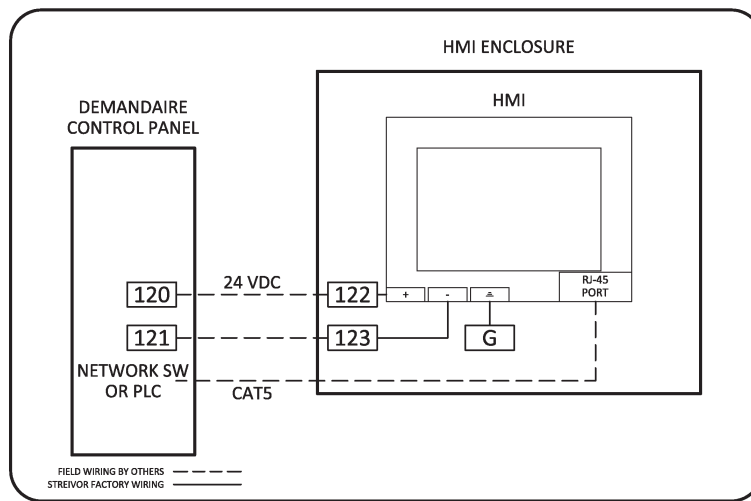

FIGURE 12: Human Machine Interface (HMI)
- Connect a CAT5 or greater Ethernet communication cable between Port X3 on the Network Switch (or Ethernet Port 2 on the PLC) in the control panel and the corresponding RJ-45 port at the bottom of the HMI (*Figure 12*).